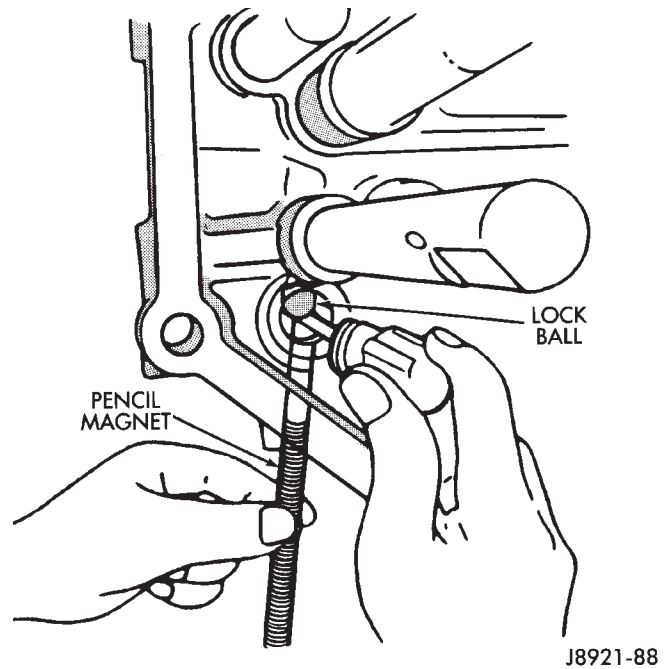

Fig. 81 Lock Ball Installation
(17) Install shift rail lock ball with pencil magnet and screwdriver (Fig. 81).